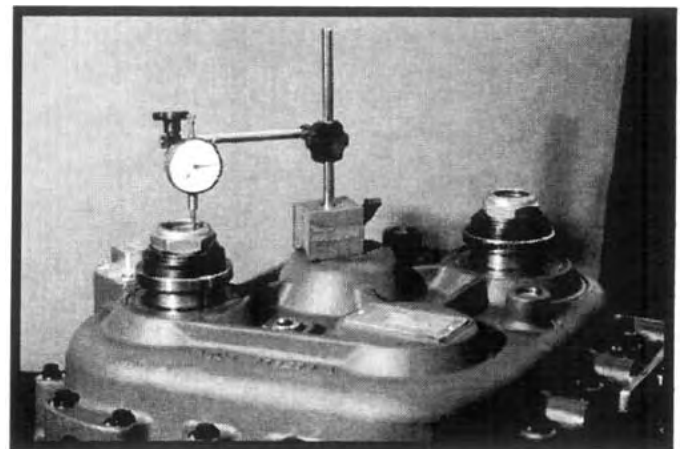

Figure 6.42
22. Pry the front output shaft up and tap down several times to seat the bearing cups. Mount a dial indicator as shown in Figure 6.42. Pry the shaft up and down and note the amount of end float.